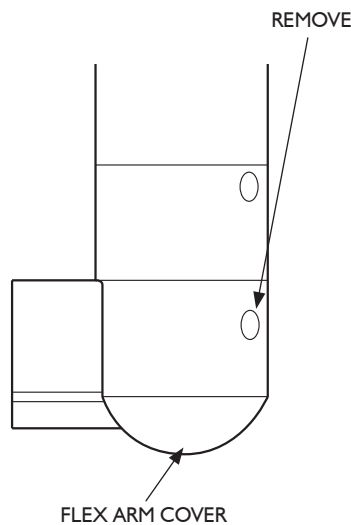

FIGURE 3
5. Remove the flex arm pivot cover with a 5/64 in. hex key. **Figure 3.**